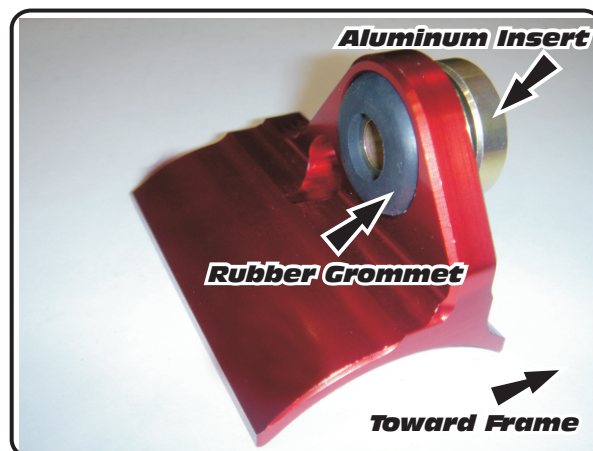

Fig. 4
- 5 Install supplied rubber grommet into aluminum muffler mounting bracket. Install aluminum insert into rubber grommet (make sure shoulder of aluminum insert faces toward the frame, see Fig. 4).